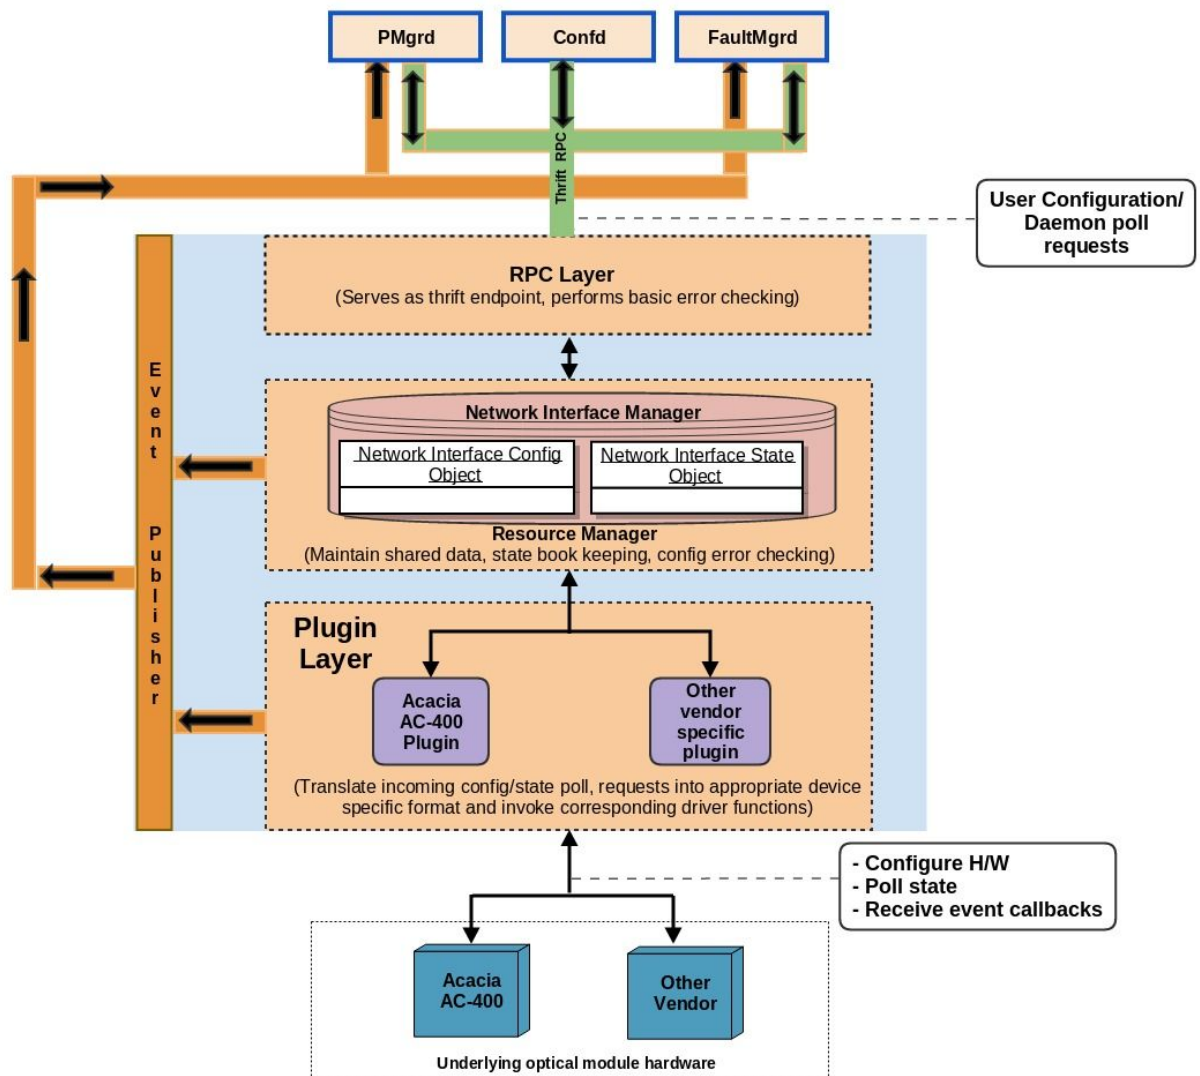

Figure 3 : Diagram illustrating internals of the optic daemon and its interfaces
- Figure 3 : Diagram illustrating internals of the optic daemon and its interfaces
As mentioned in earlier sections, the optical daemon is primarily responsible for configuration and management of the optical subsystem. Figure 3 provides a detailed representation of the internals of the optic daemon and its interfaces to other software components within the FlexSwitch software suite.